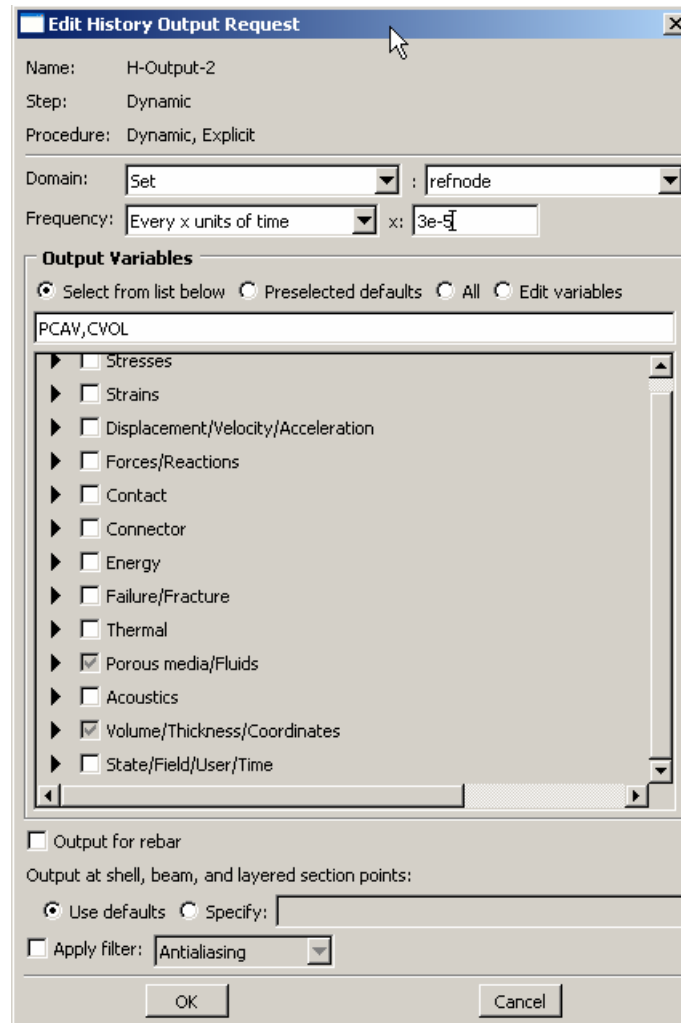

Figure W-21
- b. Enter the values shown in Figure W-21 and click **Ok** to complete the definition.